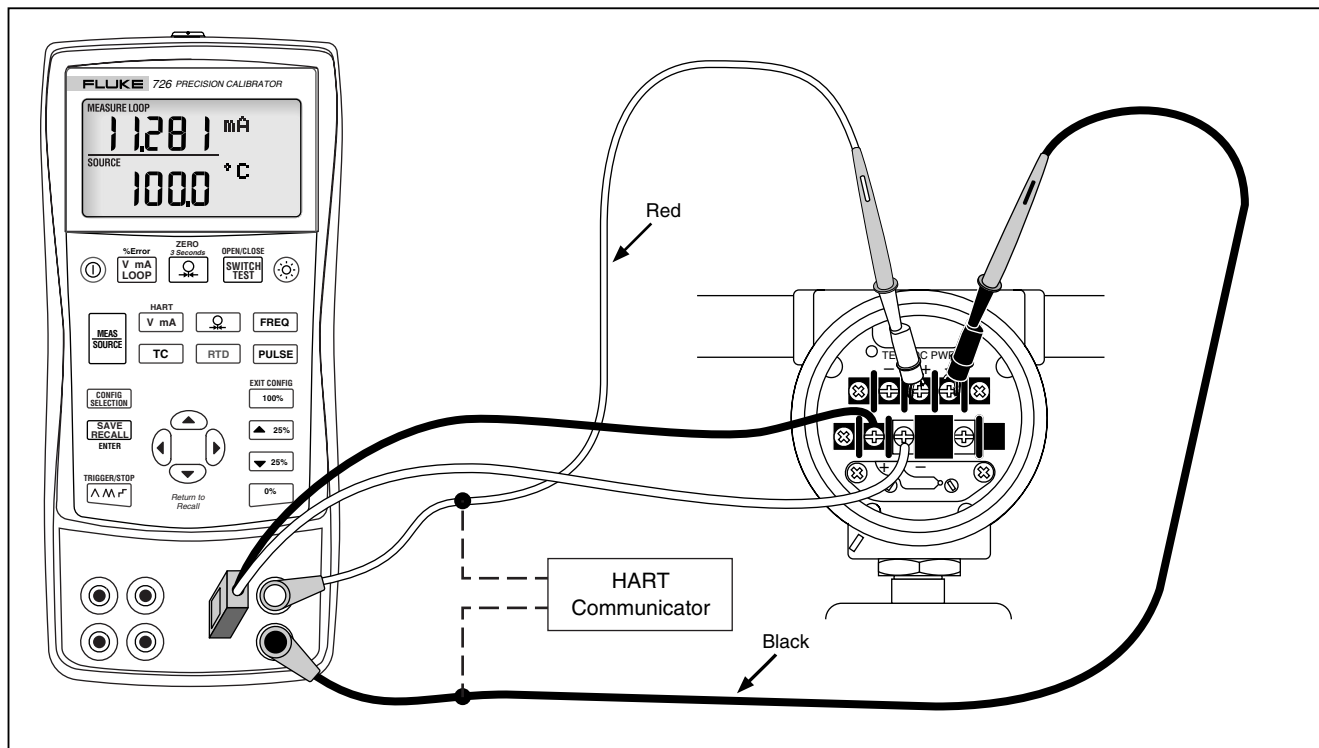

Figure 20. Calibrating a Thermocouple Transmitter
1. Connect the Calibrator to the instrument under test as shown in Figure 20.